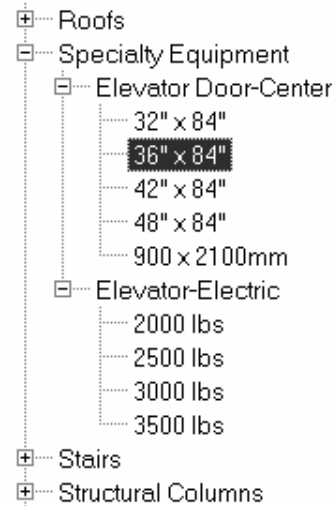

Figure 3-4.8a Elevator doors in Project Browser
21. Drag the **36" x 84"** elevator door type from the project browser into the first floor plan (Figure 3-4.8a).